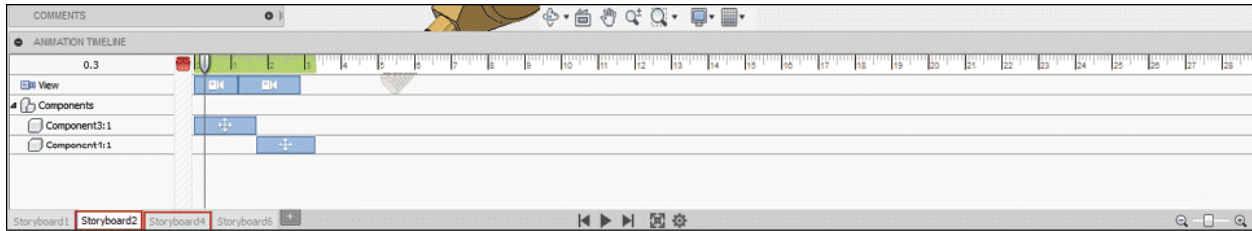

Figure-34. ANIMATION TIMELINE
- After setting desired options, click on the **OK** button from the dialog box. The created storyboard will be added at the bottom of **ANIMATION TIMELINE**; refer to Figure-34.